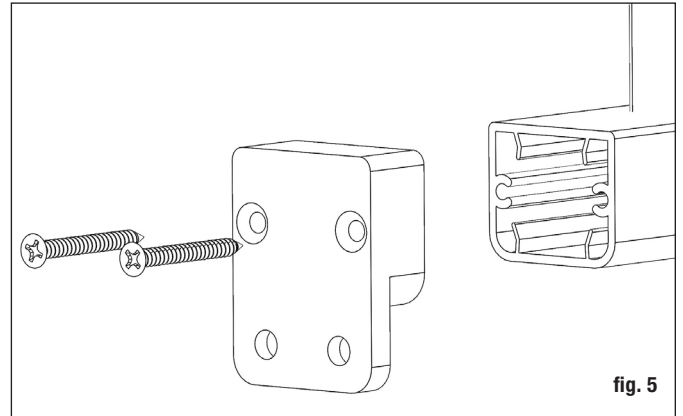

fig. 5
Step 3 Place the bottom brackets on ends of the rails. Attach the brackets to the rails with a screw attached through back of bracket into each internal screw boss (fig. 5).